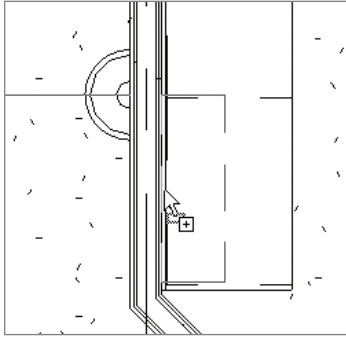

FIGURE 9.64 Adding the wall cabinet
3. Place the wall cabinet in the model, as shown in Figure 9.64. (Don't worry too much about aligning it to the cabinet below. We will align it in elevation.)